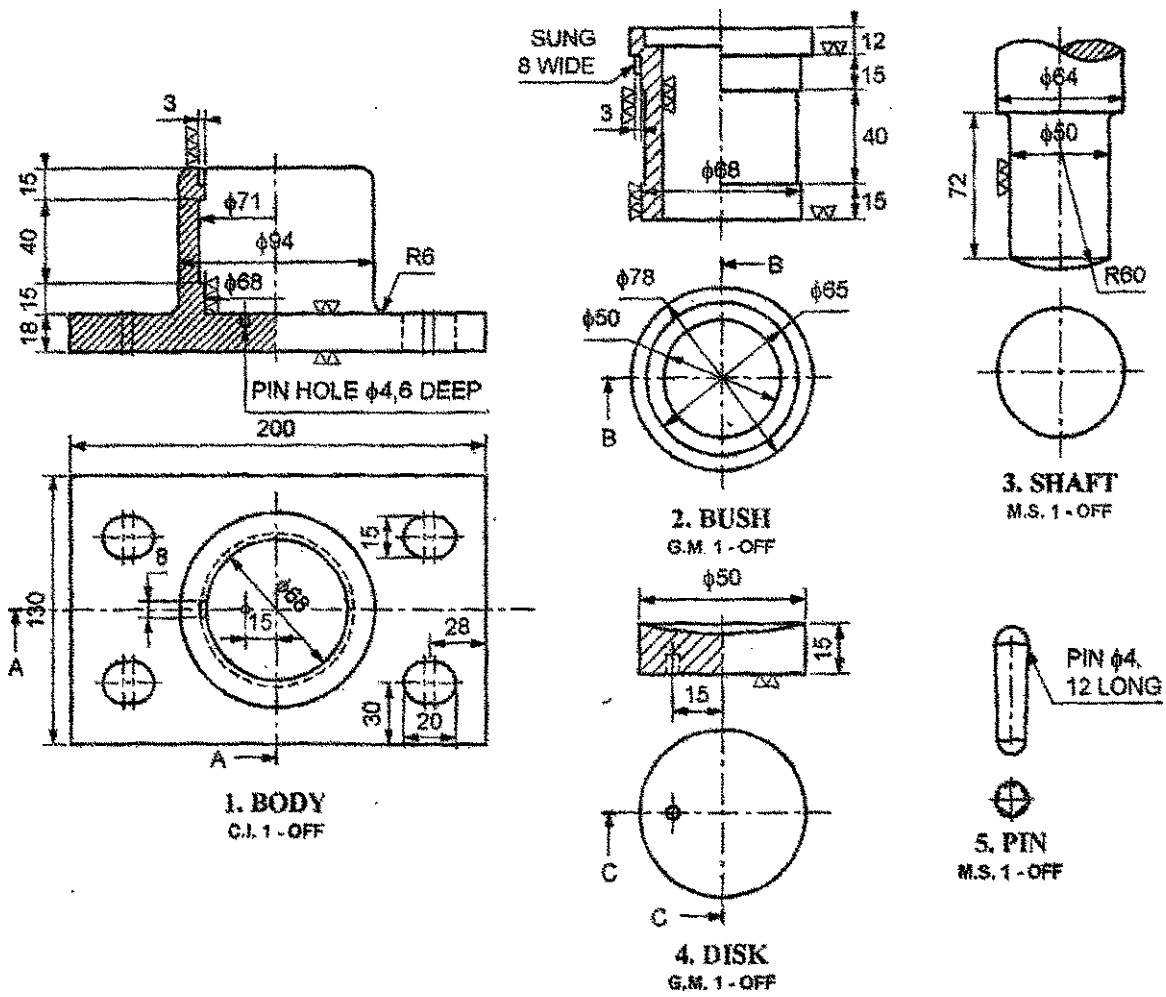

Figure 2
a) Figure 2 shows the details of foot step bearing. Draw the following views of assembly :